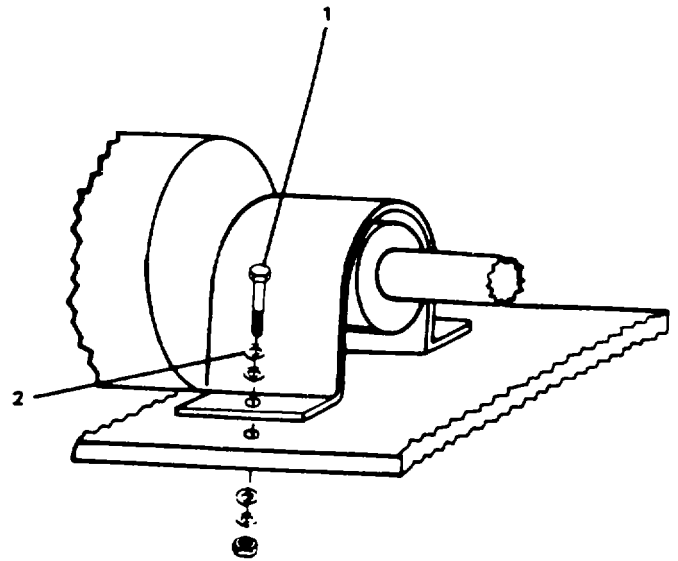
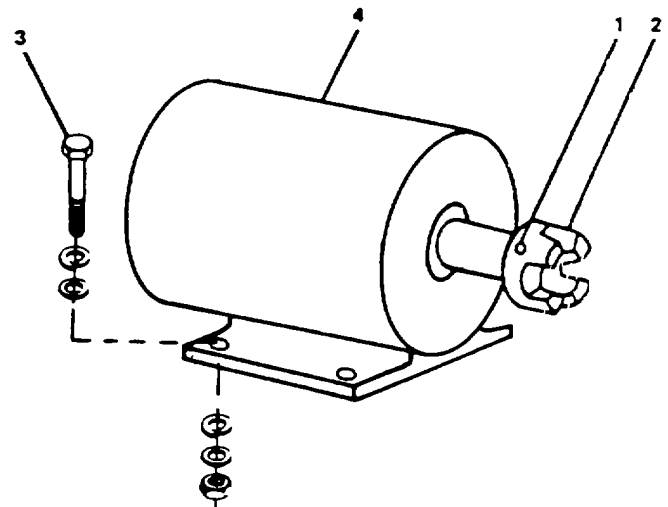

Figure 2-133. Coupling Guard.
Figure 2-134. Electric Motor.
- Remove two bolts (1, Figure 2-133) and associated hardware.
- Remove coupling guard (2).
- Loosen motor coupling flange setscrew (1, Figure 2-134).
- Slide motor coupling flange (2) and sleeve towards motor (4).
- Remove four bolts (3) and associated hardware.
- a. Slide motor coupling flange (2, Figure 2-134) and sleeve on motor shaft with flat end of flange (2) toward motor (4) housing.
- b. Position motor (4) on pump foundation with mounting holes aligned.
- c. Install four bolts (3) and associated hardware. Do not tighten.
- f. Tighten four bolts (3).
- g. Install coupling guard (2, Figure 2-133) with two bolts (1) and associated hardware. Tighten bolts.
- i. Install junction box cover (2) with screws (1). Tighten screws.